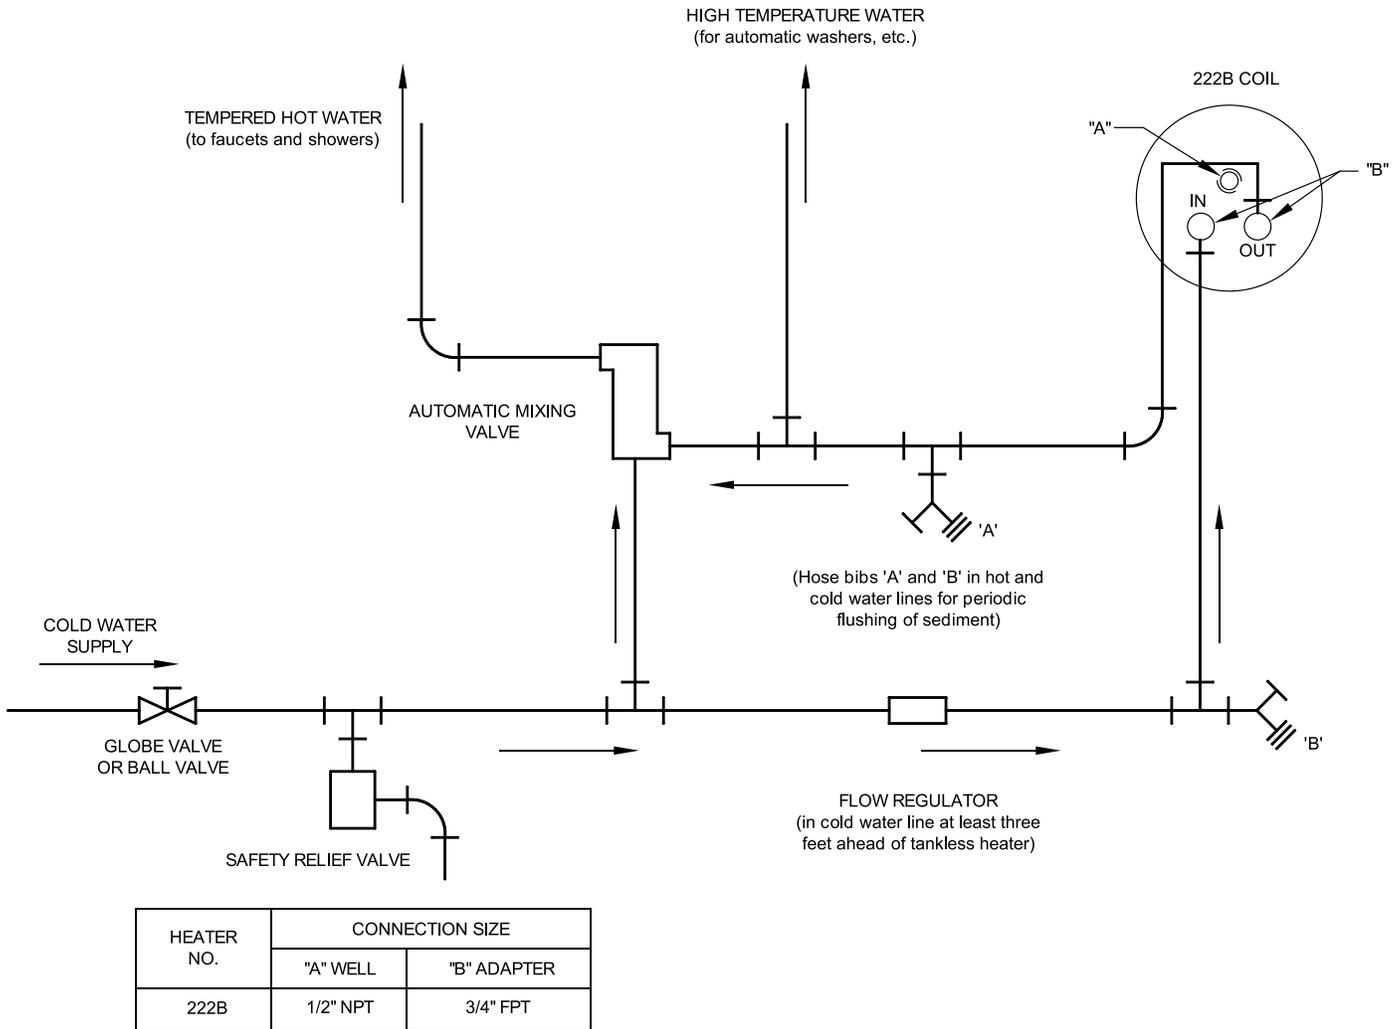

Figure 6-1: Schematic Tankless Heater Piping
- A. **CONNECT TANKLESS HEATER PIPING** as shown in Figure 6-1. See Table 6-2 for Tankless Heater Rating.
2. **TEMPERING OF HOT WATER** — Installation of an automatic mixing valve will lengthen the delivery of the available hot water by mixing some cold water with the hot. This prevents the possibility of scalding hot water at the fixtures. In addition, savings of hot water will be achieved since the user will not waste as much hot water while seeking a water temperature. Higher temperature hot water required by dishwashers and automatic washers is possible by piping the hot water from the heater prior to entering the mixing valve. The mixing valve should be "trapped" by installing it below the cold water inlet to heater to prevent lime formation in the valve. Refer to Figure 6-1.